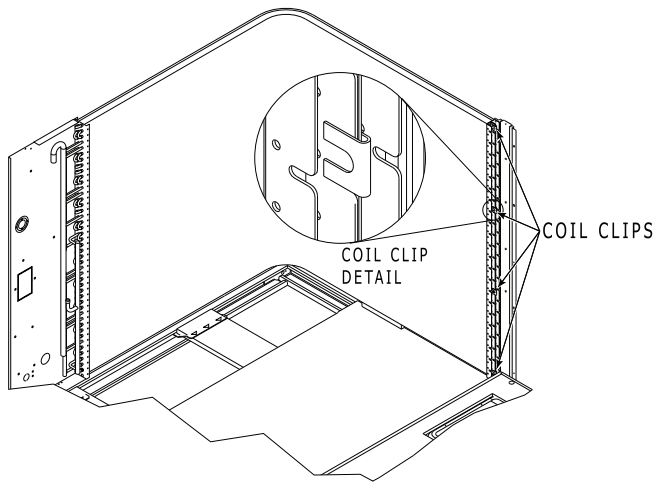

Fig. 19 — Condenser Coil Clips
5. Remove the screws from both sides of the 4 coil retaining clips on the hairpin end of the coil tube sheets. (See Fig. 19.)